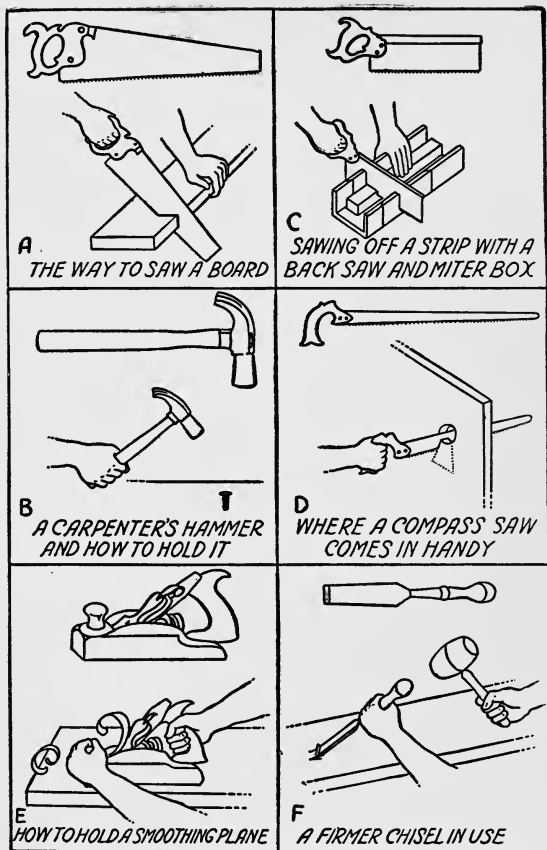

FIG. 1. SOME USEFUL WOOD WORKING TOOLS
All the tools you will need at first are shown in Figs. 1 and 2 and these are (1) a cast-steel, adze-eye, bell-faced *hammer*1 weighing about 9 ounces, which is a regular carpenter's hammer. (2) A *mallet*, made of hickory, with a 2½ inch face and try to get one in which the handle goes clear through the head and is wedged in.
(3) Four saws,2 namely (a) a 16 inch *crosscut saw* — usually called a *handsaw* — which is used for sawing off boards across the grain, (b) a 20 inch *rip-saw*, for sawing with the grain so that a board can be sawed lengthwise, (c) a *back saw* or *miter saw* as it is sometimes called; it is about 12 inches long and has about